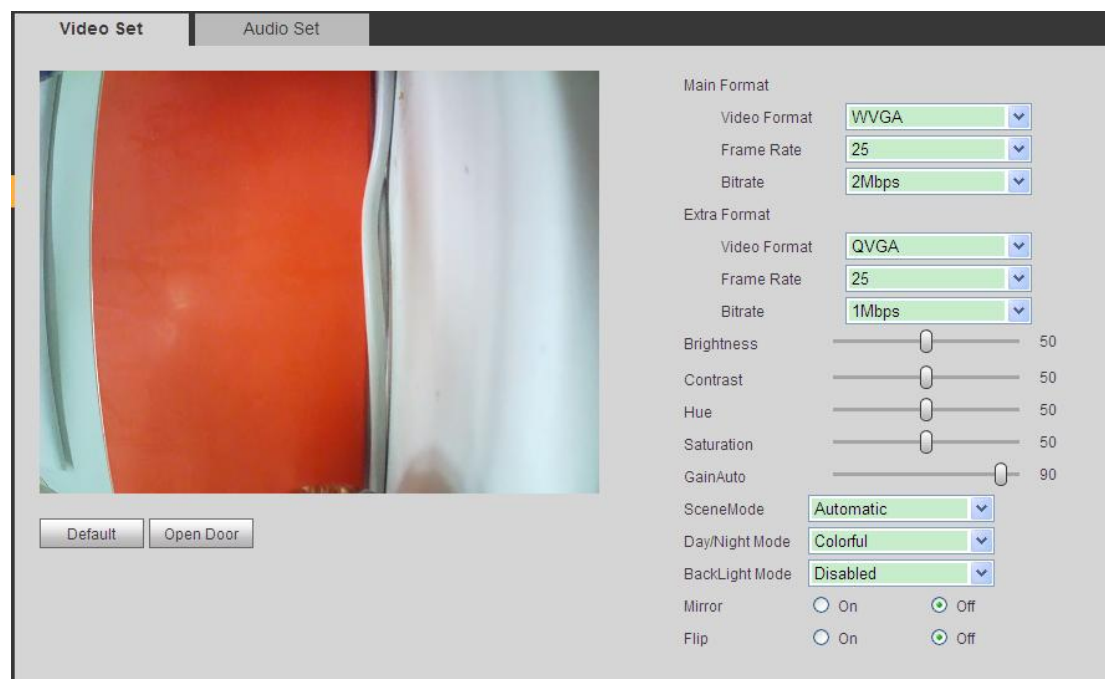

Figure 5-14
Step 2. Adjust video parameter. See Figure 5-14.